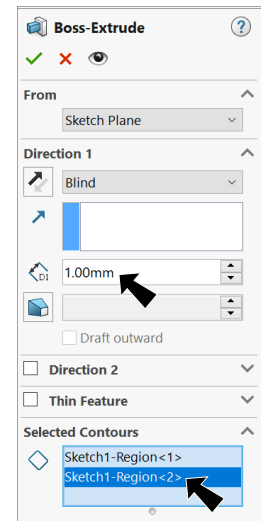

Fig. 6
- under Direction 1, **Fig. 6**